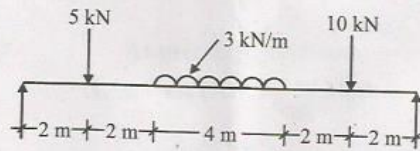

Fig. 13 (a)
- (1) Maximum intensity of shear stress and
- (2) Changes in the dimensions of the shell. Take $E = 2 \times 10^5 \text{ N/mm}^2$ and $\nu = 0.3$. (8)
- (ii) A copper cylinder 900 mm long, 400 mm internal diameter and 6 mm thick, with flat ends, is initially full of oil at atmospheric pressure. Calculate the volume of oil which must be pumped into the cylinder in order to raise the pressure to 5 N/mm^2 above atmospheric pressure. For copper take $E = 1 \times 10^5 \text{ N/mm}^2$ and Poisson's ratio = $1/3$. Take bulk modulus of oil as 2500 N/mm^2 . Neglect the deformation of the end plates. (8)
13. (a) Draw the shear force and bending moment diagrams for the beam shown in fig. 13 (a). Clearly mark the position of the maximum bending moment and determine its value. (16)